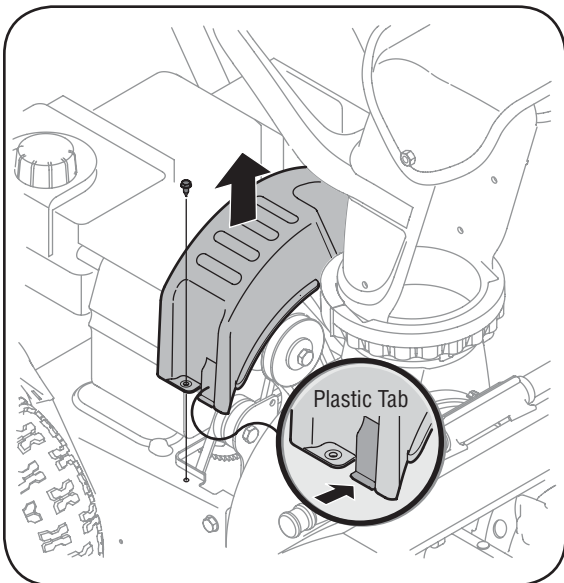

Figure 11
3. Remove the self tapping screw which secures the belt cover to the frame. Remove the belt cover by pushing in on the sides of the cover to release the plastic tabs. Pull the belt cover out from around the engine and chute. See Figure 11.